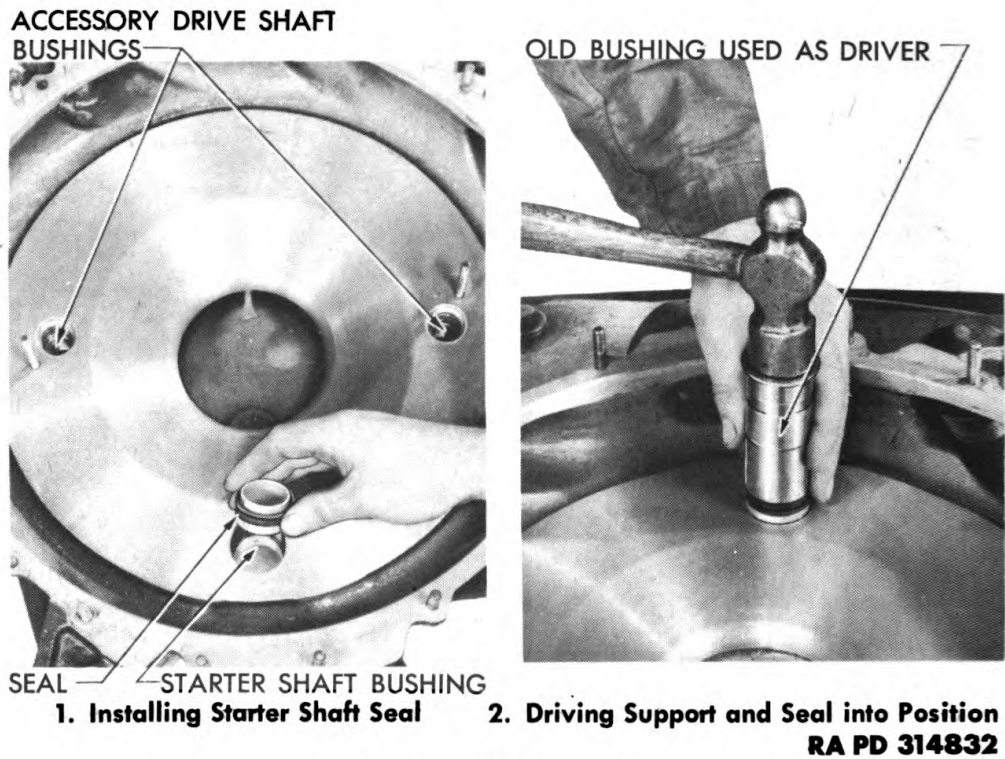

Figure 196 – Installing Starter Shaft Seal and Support
b. Install Starter Shaft Seal. Make sure that fuel distribution chamber is absolutely clean, and free from burs and scratches. Install new rubber seal complete with supporting bushing (fig. 196). Place new seal on starter seal support, and insert support in starter shaft opening. Using an old starter shaft bushing as a driver, drive assembly into opening until it bottoms on starter shaft bushing (fig. 196).